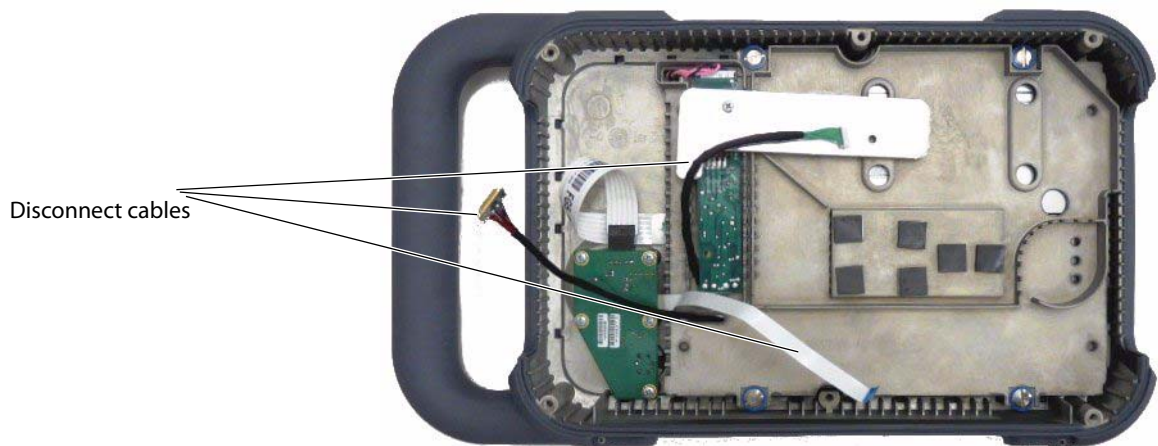

Figure 4.2 Disconnecting Cables
- 3 Disconnect the three cables connecting the upper and lower halves of the system as show in Figure 4.2